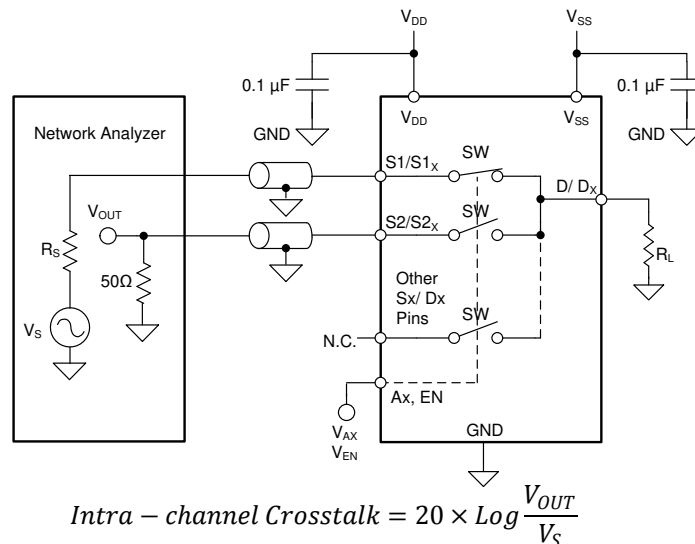

图 8-9. Intra-channel Crosstalk Measurement Setup
1. Intra-channel crosstalk ($X_{TALK(INTRA)}$): the voltage at the source pin (S_x) of an off-switch input when a signal is applied at the source pin of an on-switch input in the same channel, as shown in 图 8-9 .